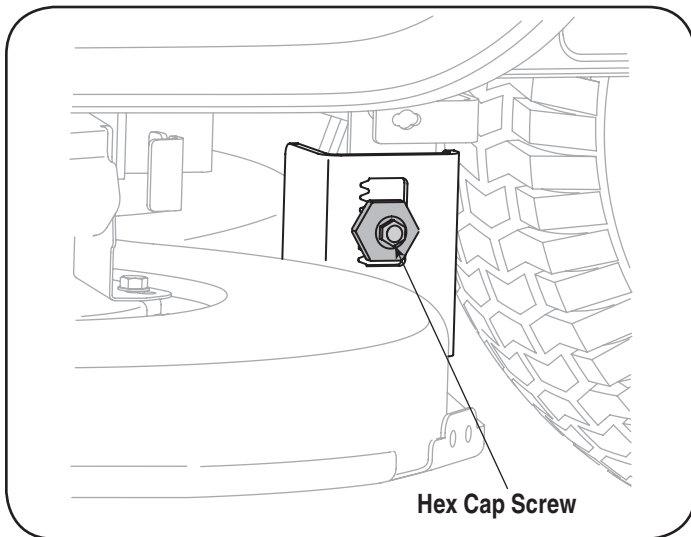

Figure 22
3. Loosen, but do NOT remove, the hex cap screw on the left deck hanger bracket. See Figure 22.